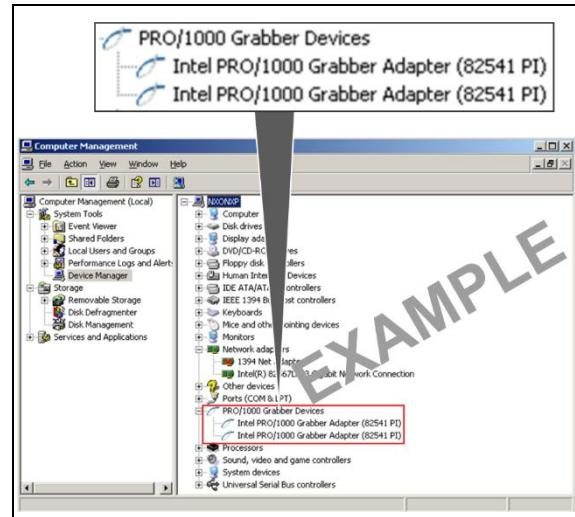

Figure 12
- (8) After finalization of the activation and reboot of the NX, go to **Control Panel > Device Manager > Network Adapters**.
- (9) In case of Intel® PRO/1000 GT or Intel® Gigabit CT network card in combination with VRN 7.5: Confirm that the installed NIC(s) is (are) converted now to Grabber Devices. Refer to Figure 12 for an example.